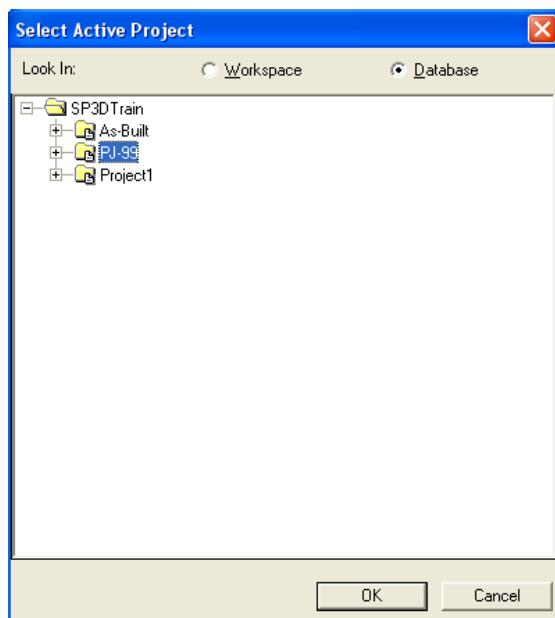

Figure 4: Select the Active Project Dialog Box
3. The **Active Project** dialog box appears. Select the **Database** option to see all the WBS projects in the dialog box. Next, select **PJ-99**, as shown in Figure 4, to specify **PJ-99** as an active project.